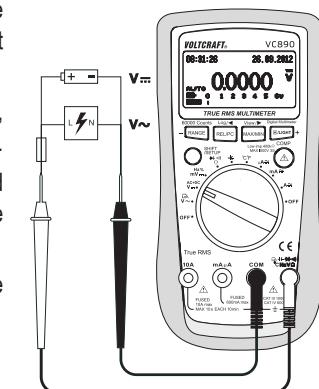

Fig. 2
2. Insert the red test lead into the °CHzVΩ measuring socket (7), the black test lead into the COM measuring socket (8) (Fig. 2).